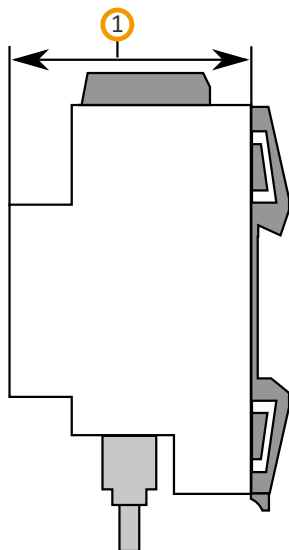

Figure 16: Device depth
Pay attention to the device depth (see figure 16, item 1): DRA Plus, 74 mm.